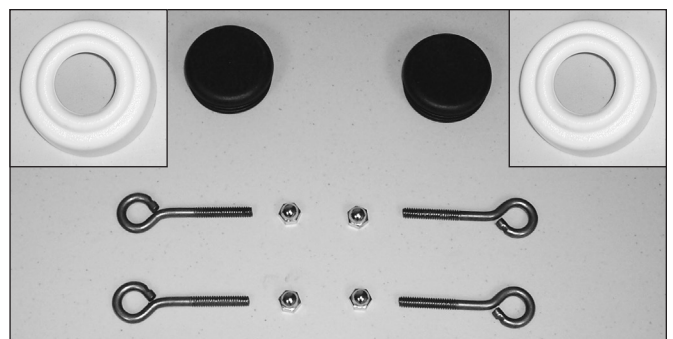

Figure 5
**STEP THREE:** Attach the 4-1/4" x 2" eyebolts with the 4-1/4" acorn nuts (as shown in Fig. 5). Insert the black caps in the pole tops.